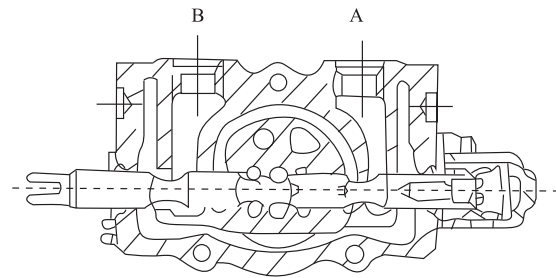

Fig. 7-4
(3) Drawing-out of slide valve (See Fig. 7-4)